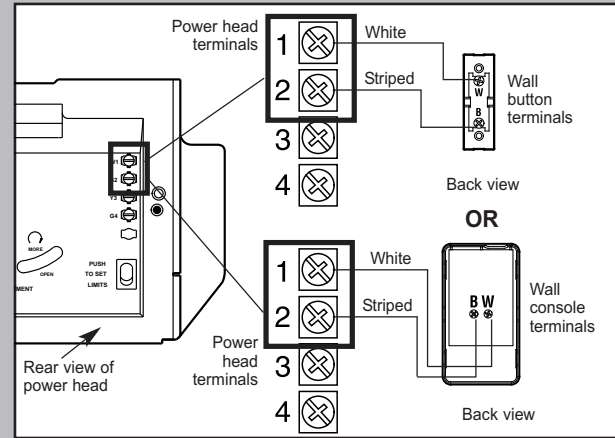
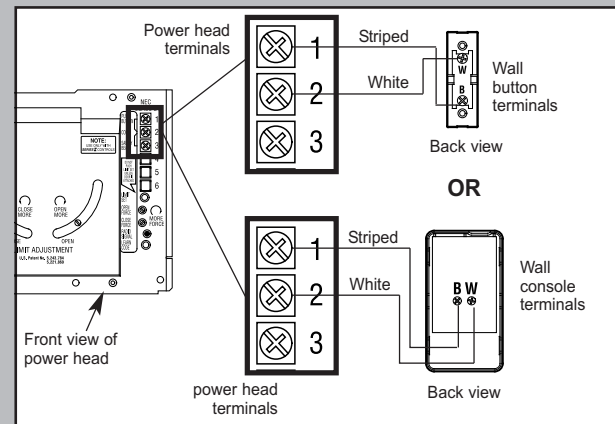

Fig. 4-1a
Fig. 4-1b
3. Attach wires to terminals (Phantom Fig. 4-1a) (Legacy Fig. 4-1b).